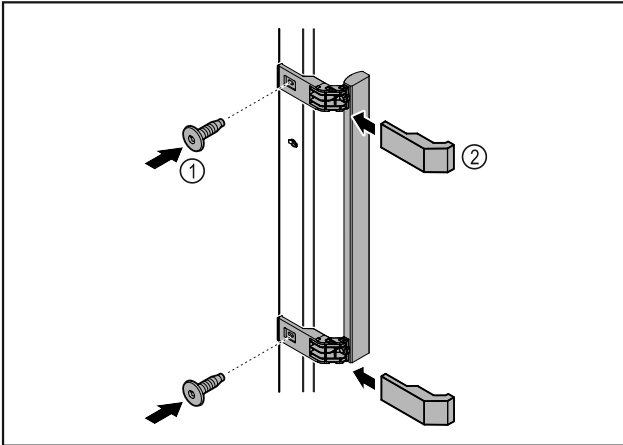

Fig. 46
- ▶ Attach handle from accessory kit to the door using the screws supplied Fig. 46 (1).
- ▶ Put on cover Fig. 46 (2).